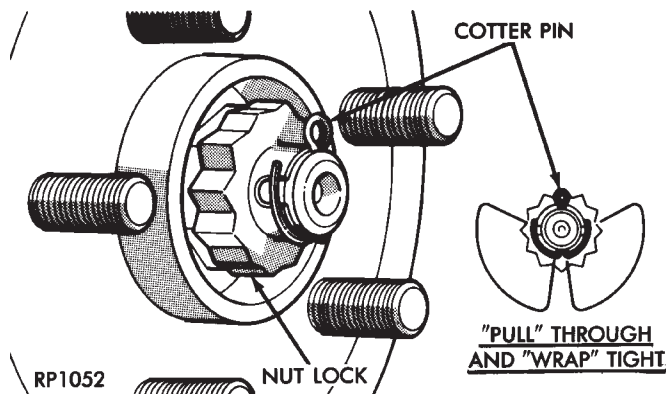

Fig. 19 Install Spring Washer, Nut Lock, & Cotter Pin
- (13) Install spring washer, nut lock, and new cotter pin. Wrap cotter pin prongs tightly around nut lock (Fig. 19).